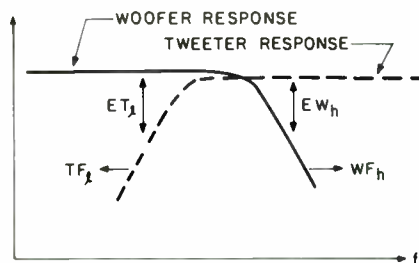
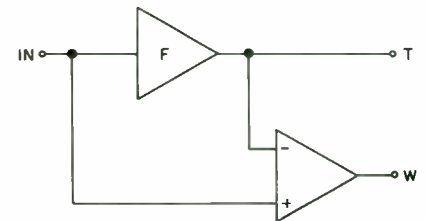
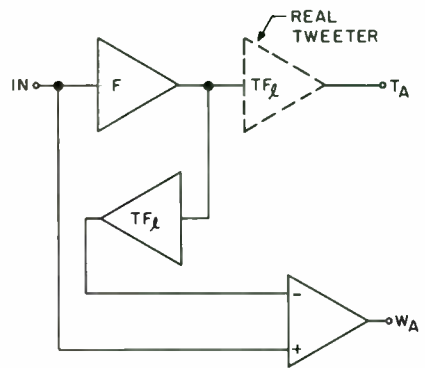

FIGURE 1: For an effective crossover filter, the woofer and tweeter responses must overlap.
FIGURE 2: Basic crossover circuit.
FIGURE 3: Crossover circuit with compensated tweeter.
responses must overlap. (See *Fig. 1*.) Theoretically, if you want a perfect acoustical response in the crossover region, you must compensate for the error of the woofer in the high frequencies (EW_h) and the error of the tweeter in the low frequencies (ET_L). In this crossover region, the woofer is a low-pass filter response (WF_h), and the tweeter is a high-pass filter response (TF_L), so you have:
1. In the basic crossover, F is the high-pass response (e.g., 18dB/octave at 3,500Hz) that you want to give the tweeter. (See *Fig. 2*.) For this circuit's amplitude and phase,
2. In the real world, a tweeter has its own TF_L response, for example, a 1kHz resonant frequency (*Fig. 1*). You can add a filter (TF_L) to the basic circuit (TF_L being a 12dB/octave, 1kHz high-pass filter) as in *Fig. 3*. Now, if the woofer is perfect (i.e., $EW_h = 0$, as in *Fig. 2*),